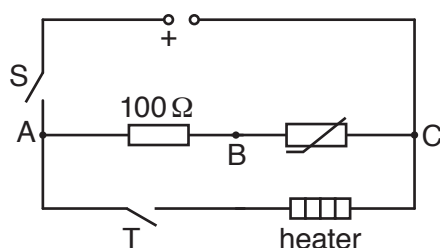

Fig. 4.3
- The $100\ \Omega$ fixed resistor (e.g. RS component 707-7587) is part of a circuit shown in Fig. 4.3 which must be set up by the supervisor.
At the changeover the supervisor must ensure that the apparatus is returned to the arrangement shown in Fig. 4.3. The heater and thermistor assembly should remain inside the ball of Blu Tack. However, it should be disconnected from the circuit and replaced by an identical assembly, also encased in Blu Tack that is at room temperature. The original assembly should be placed away from candidates so that it has time to cool down to room temperature so that it can be used in later experiments. This means that a spare set of the heater and thermistor assembly will be required.